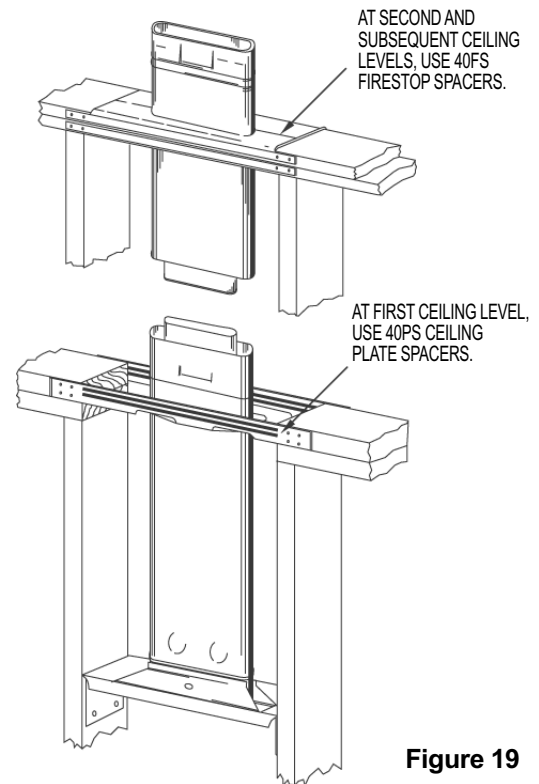

Figure 19
5. If the Vent is to continue additional stories within a 2x4 stud space, install Firestop Spacers at the second and subsequent ceiling levels as shown in **Figure 19**.